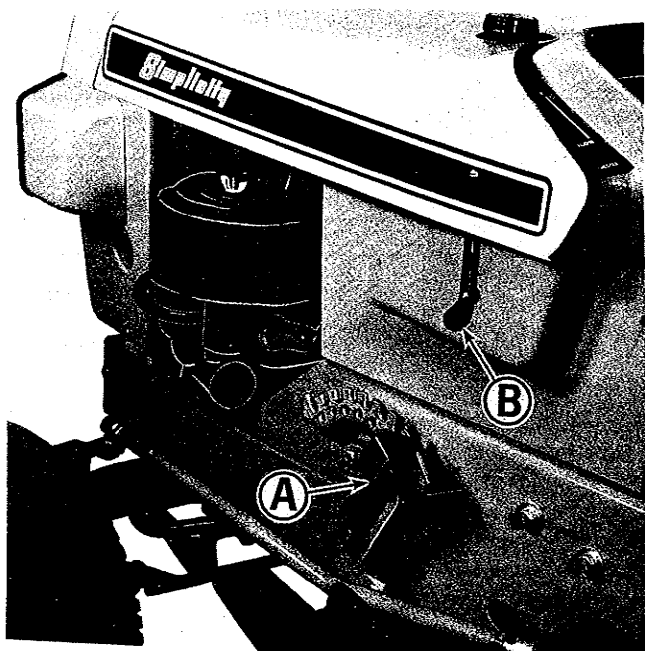

Figure 7. Left side of tractor.
See figure 7. The tractor hood is hinged at the front by two spring loaded bolts. It may be easily opened by releasing the two rubber straps (B) located on either side of the hood. Pull down and out on the straps to release them. Lift upward on the back of the hood to raise it. The hood raised in this position provides easy access to the generator, battery, fuel tank, engine, etc.